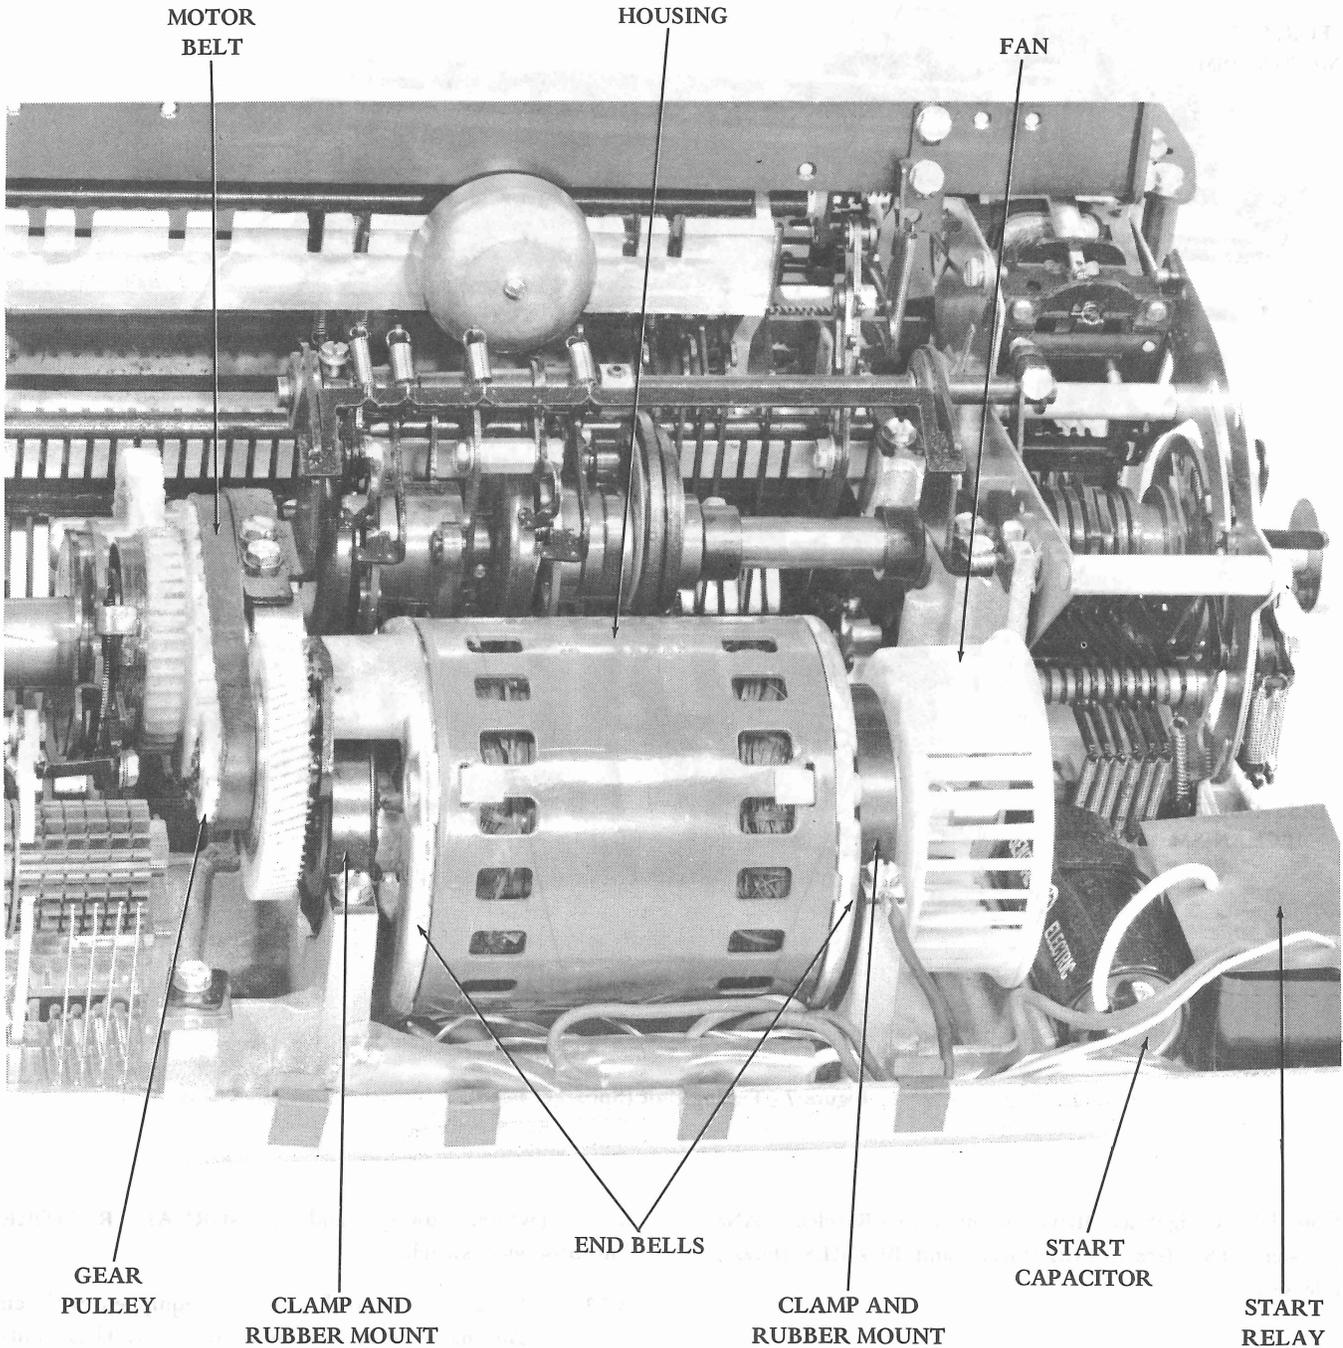

Figure 8 - Motor and Drive Parts
3.08 The motor (Figure 8) is an integral part of the typing unit which provides motive force needed for the units mechanical motion. It is provided by a 2-pole single-phase synchronous motor which operates from a 115-volt 60 hertz ac source and develops 33 millihorsepower at 3600 rpm (3000 rpm for 50 hertz operation).